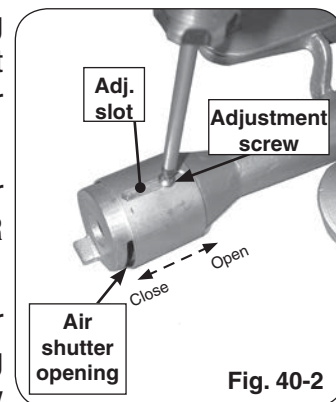

Fig. 40-2
3. Adjust the air shutter opening by loosening the adjustment screw with a screwdriver, then sliding the air shutter backward or forward to open or close the air shutter opening (see Fig. 40-2).